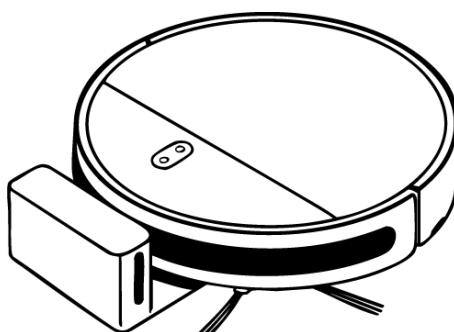

Figure 6
20. A family bought an automated cleaning robot as seen in Figure 6. This cleaning robot includes a function which makes the robot turn whenever it senses darkness in a specific area.